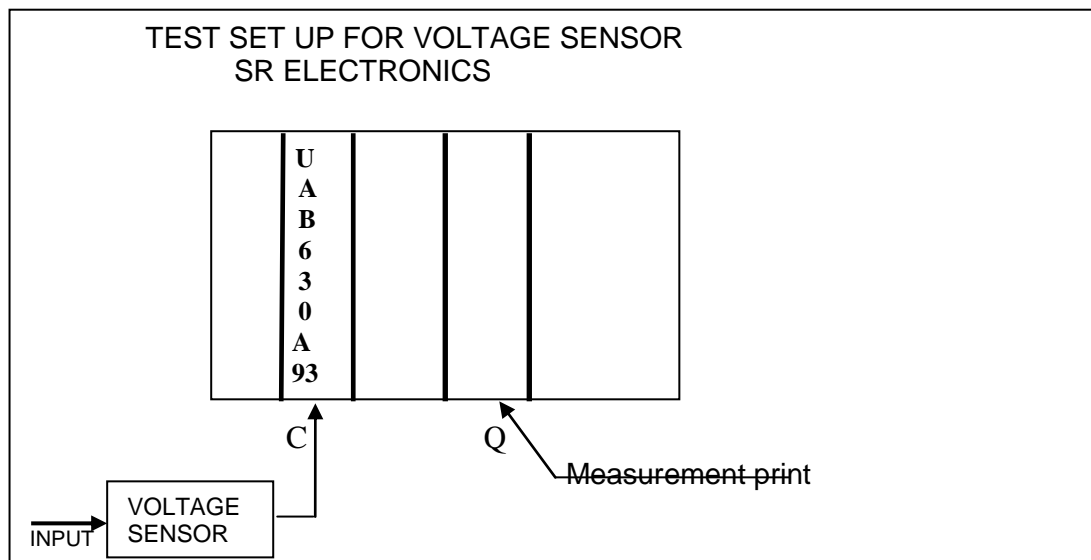

Fig.14
4.4 Test Set up for testing DC link voltage Sensors/Earth fault relay: Test set up for testing voltage sensor and SAP card is as shown in fig.14 below: